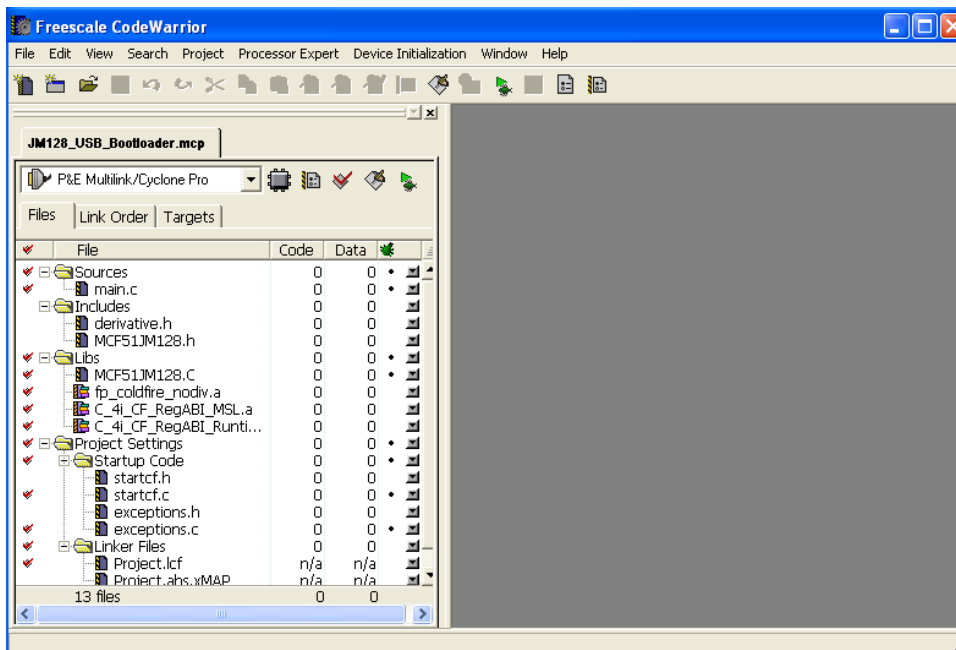

Figure 7. New CodeWarrior Project
4. With the default settings, the new created project looks like the project JM128\_USB\_Bootloader.mcp in Figure 7.